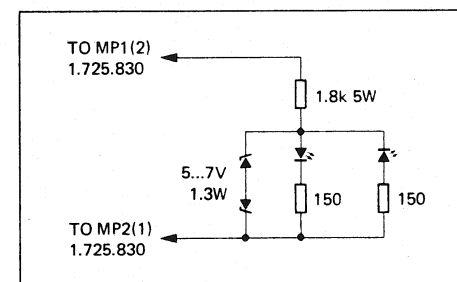

Fig. 4.3
- Capacitor discharge circuit according to Fig. 4.3